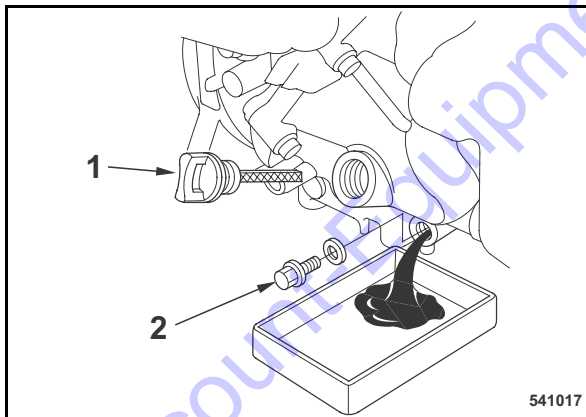

Fig. 36
- Clean the area around oil dipstick (1) (Fig. 36) and drain plug (2).